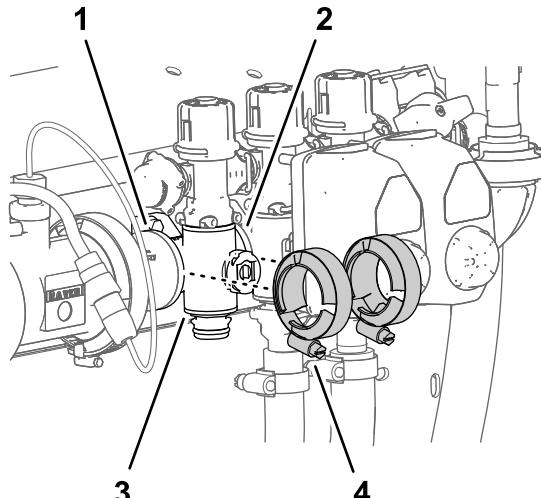

Figure 124
4. Loosely assemble the flange clamps that you removed in Removing the Section-Manifold Valve \(page 82\) to the flanges of the section-valve manifold and the flanges of the other section-valve (s) and/or coupling adapter (Figure 124).
7. Tighten the 2 flange clamps by hand (Figure 124).